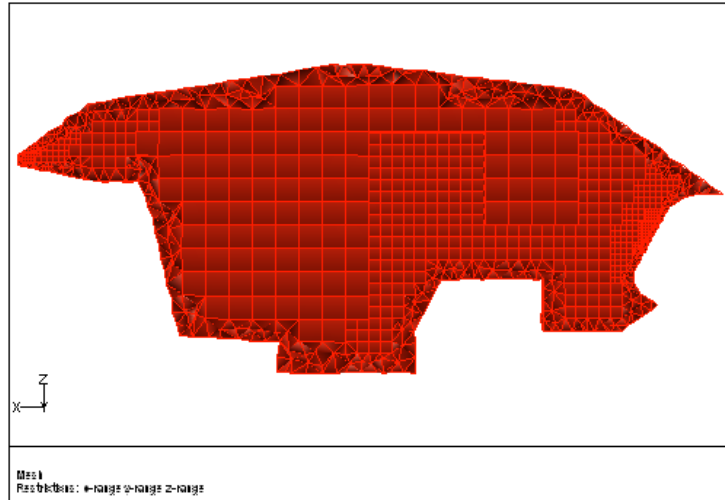

Figure 5.11: Slide of Cells at  $y = 50$  for the Hexcore Mesh With Buffer Layers = 2
7. Display the slide of cells at  $y = 50$  and  $y = -525$  (Figures 5.11 and 5.12).